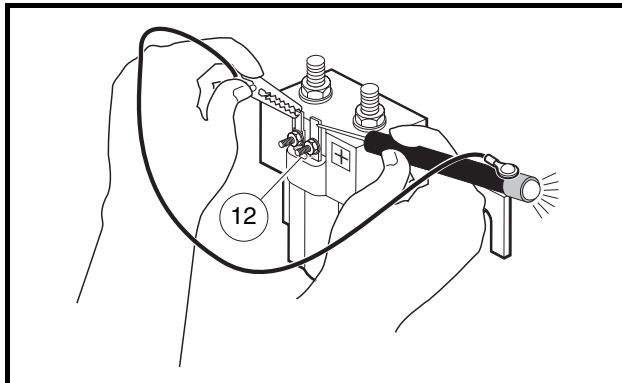

Figure 11-14 Diode Test – Probe Position One
- 3.1. Place the probe end of the tester on the small terminal of the solenoid marked positive (+) and place the alligator clip of the tester on the other small activating coil terminal (**Figure 11-14, Page 11-18**). The tester should illuminate, indicating continuity.